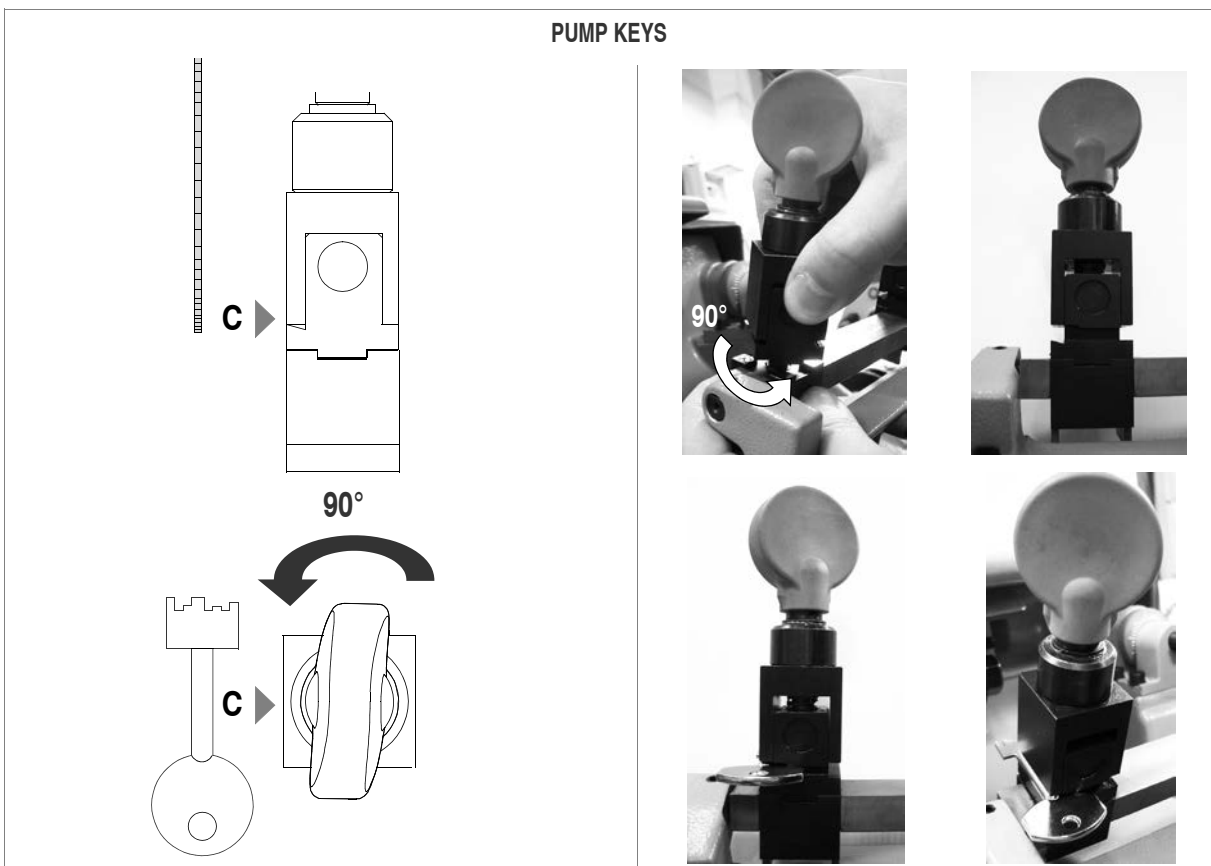

Fig. 43
- Clamp side for pump keys (position C - turned 90°) (fig. 43)